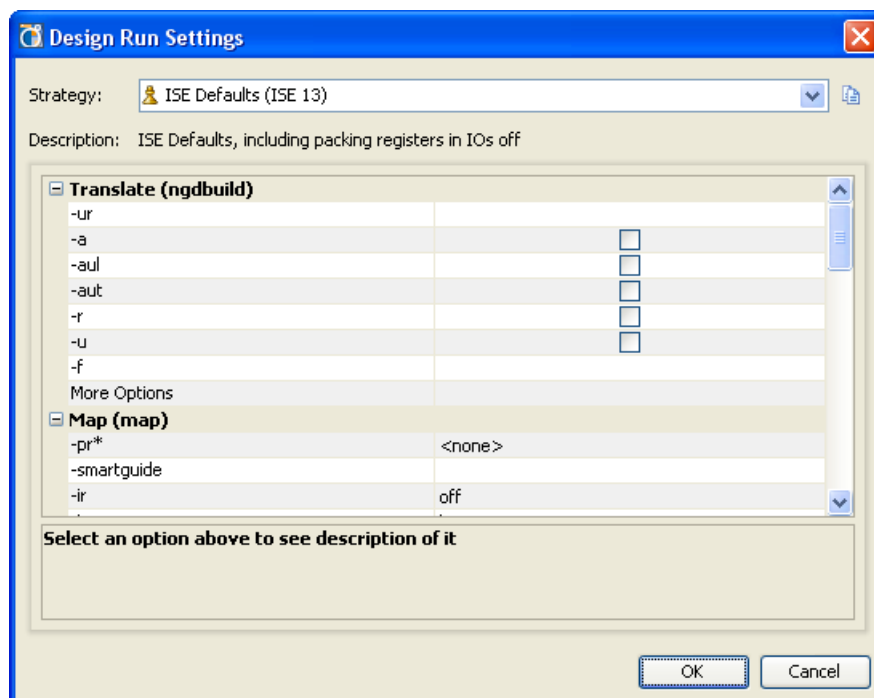

Figure 9-4: Design Run Settings for an Implementation Run
- **Options** — Select the implementation strategy to use for the run. Click the file browser button to open the **Design Run Settings** dialog box to modify ISE command-line options. Figure 9-4, page 294 shows the Design Run Settings dialog box.